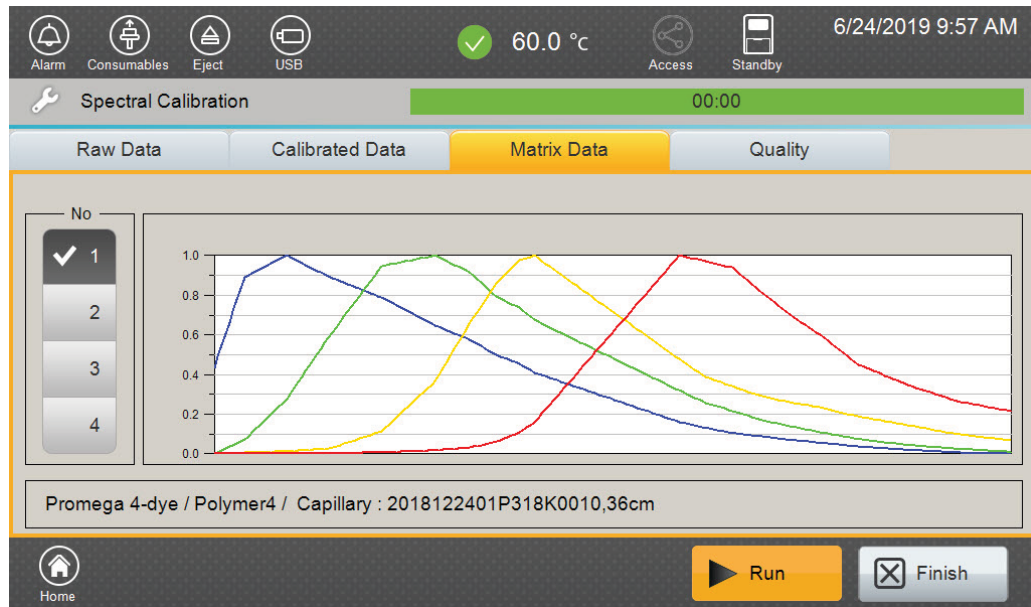

Figure 54. Spectral Calibration 'Matrix Data' tab screen.
- The 'Matrix Data' tab can be used to view emission spectra for each capillary (Figure 54).